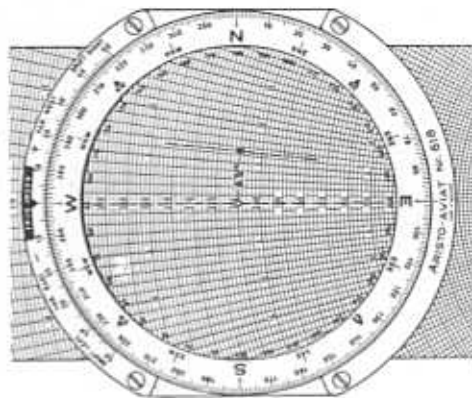

Fig. 56
- (1) N of compass rose under TRUE INDEX.
- (2) Scale off 24 NM up or down along the center axis and mark this point.
- (3) Set E (or W) to TRUE INDEX.
- (4) 210 on center axis of slide under center bore.
- (5) Read angle of departure  $6\frac{1}{2}^\circ$  at the marked point (fig. 56).